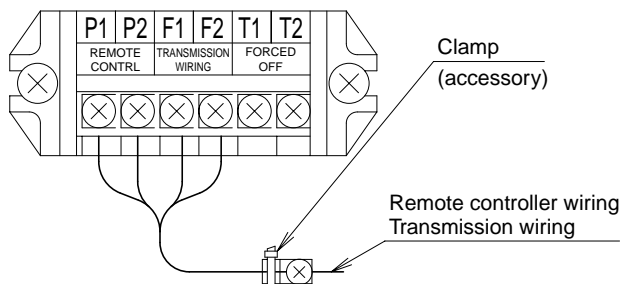

Fig. 18
- Pass the remote control wiring, the transmission wiring, and the computerised control wire into the electric parts box through the through-hole and connect to the terminals on the X3M terminal block. After connection, secure with the included cramping material. (Refer to Fig. 18)